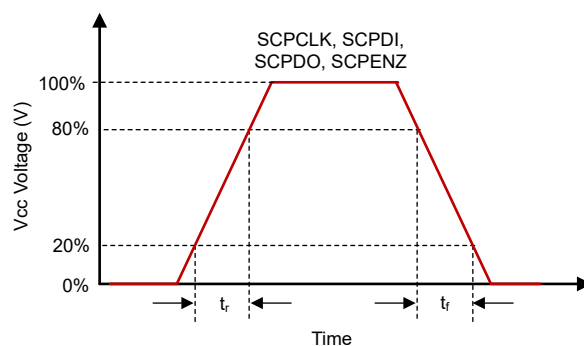

Figure 5-3. SCP Requirements for Rise and Fall
(1) See Figure 5-3 for rise time and fall time for SCP.